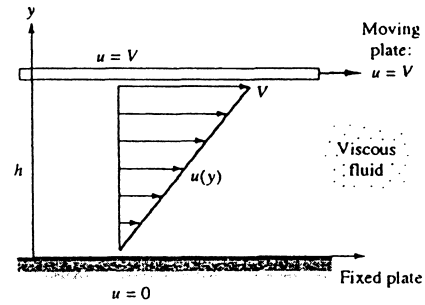

Fig. 1.6
**4.62** Show that the linear Couette flow between plates in Fig. 1.6 has a stream function but no velocity potential. Why is this so?